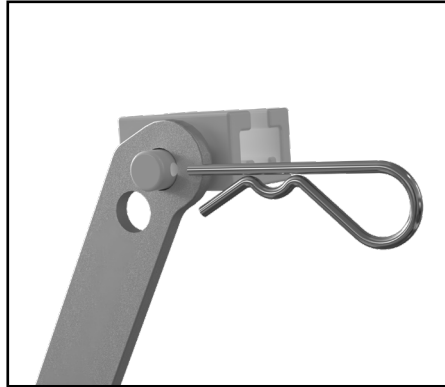

Figure 18
- c. (On the roof). Install the new I-Beam Slider (Supplied) into the lift arm, in the same hole that the old slider was installed in, so that the slider is on the passenger side of the lift arm and secure with a hair pin. Some friction between the lift arm and hair pin is intended. **(Figure 18)**